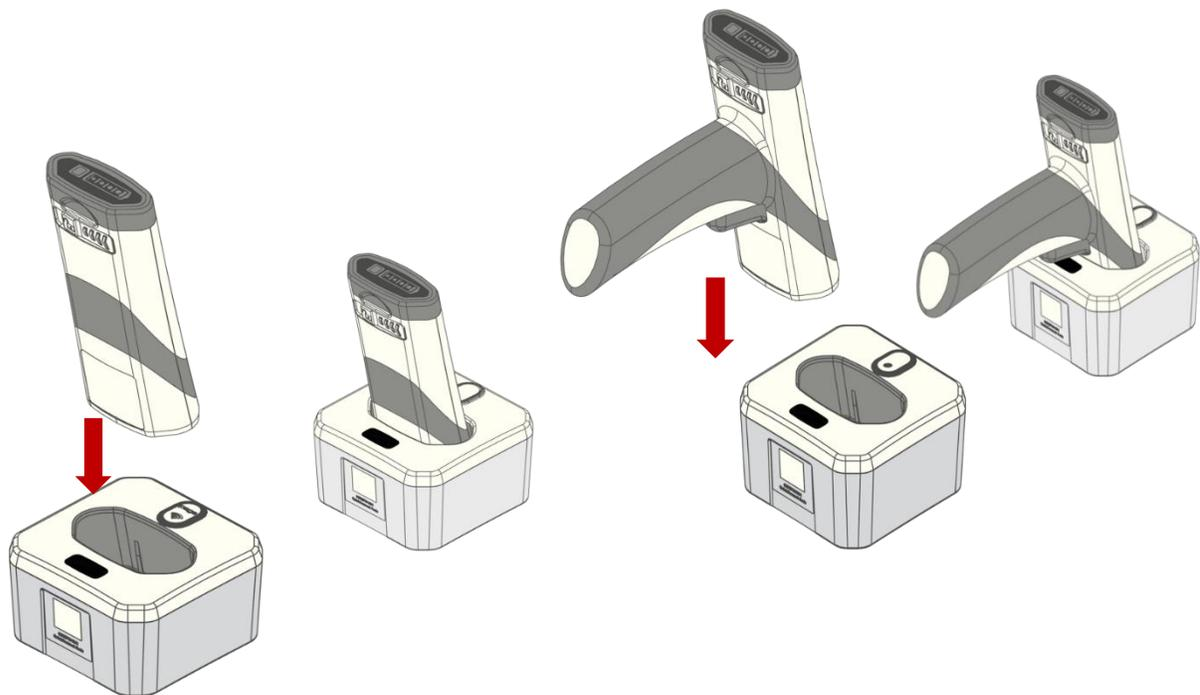

Figure 11 Charging Reader in Charging Station
5.9.1. To charge the battery installed in the reader, place the reader in the charging station with the scan window facing down (Figure 11). The reader will beep once if the reader is powered off and wakes up, another beep if the reader has been paired with the charger and reconnects. The Power Gauge LEDs on the battery will start flashing 4 second on and 1 second off alternately. Once the battery is fully charged, the Power Gauge LEDs will stay on solid. The battery will be fully charged in approximately 3.5 hrs when using the charging station with an external power supply (CRA-P4). Charging time may vary if the inductive charger is connected to a PC USB port.